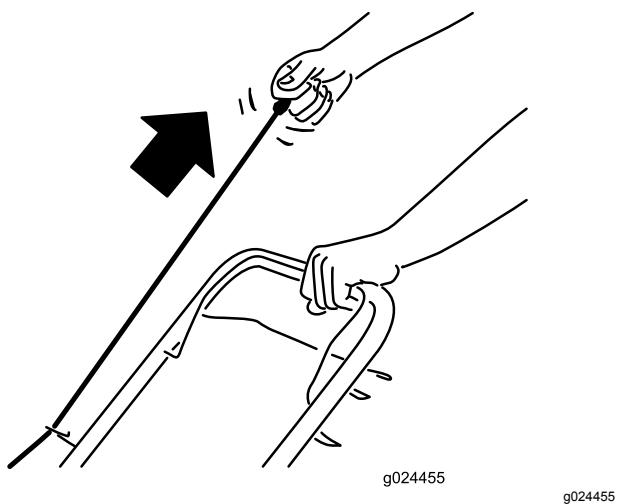

Figure 15
2. Pull the recoil-start handle (Figure 15) lightly until you feel resistance, then pull it sharply, and allow it to return to the rope guide on the handle slowly.
1. Raise and hold up the rear deflector (Figure 15).